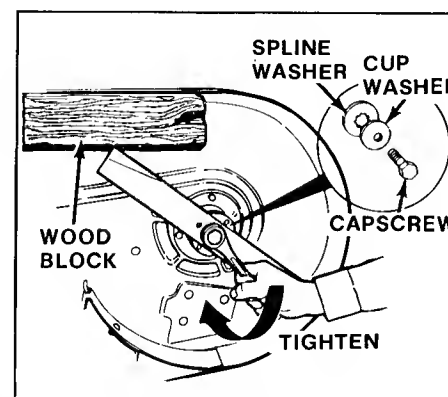

Figure 20. Installing Blade
7. Reinstall each blade with the tabs pointing up toward deck and secure with a capscrew, cup washer, and spline washer. Be sure all splines are aligned and washer is flush against blade. Use a wooden block to prevent blade rotation and torque capscrew to 55 ft. lbs. (74 N.m). (figure 20).